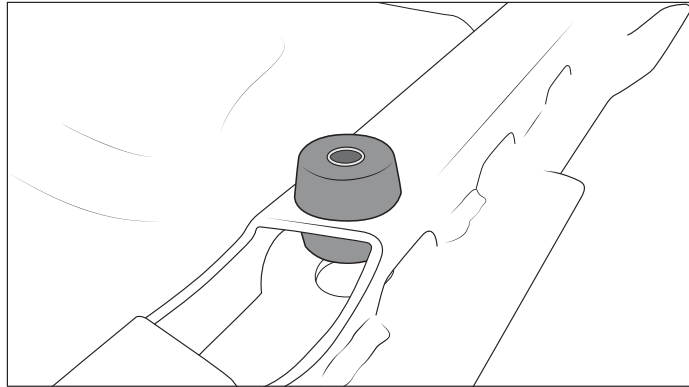

Figure 14
- A. Place bushings onto rear skid cross-member, 1 on top of horizontal surface and 1 inside/underneath. Install 40mm sleeve through bushings (fig. 14).